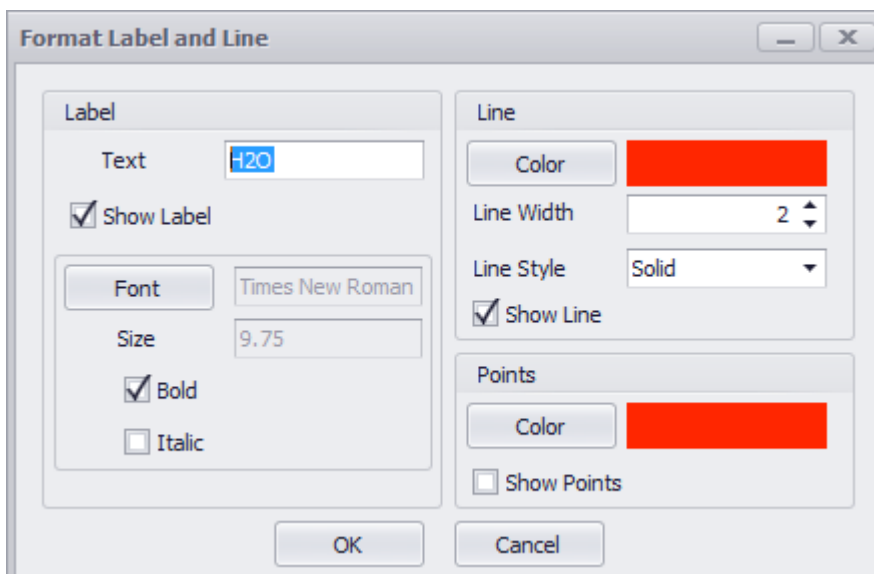

Fig. 21. Changing label and line specifications.
2. The **line width** of curves, species label font, etc. may be changed by double clicking the species labels or selecting the label with the mouse and selecting **Format Label** from the menu. You cannot do this by double clicking the line. The label and curve editing window is shown in **Fig. 21**. Note that line styles other than solid are available only for line widths smaller than 0.3 mm.